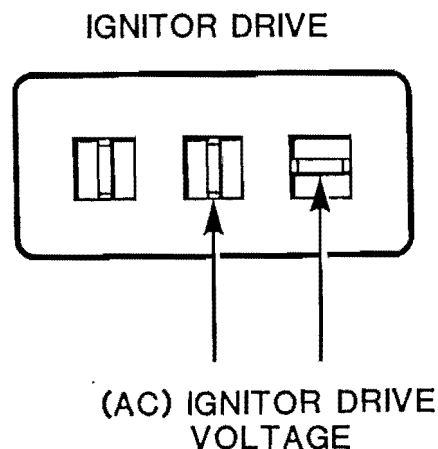

Fig. 15 Ignitor Drive Plug.
- c No flash, and no "snap" at all indicates the ignitor or the power supply ignitor circuit is not working. The ignitor itself, the cabling to the power supply, or the ignitor drive circuitry in the Power Supply is at fault. You can check for ignitor drive signal from the power supply by monitoring the plug at the Lamp Housing end of the ignitor drive cable. Detach the cable from the Lamp Housing and connect a high impedance AC voltmeter across the pins shown in Fig. 15. When you press the "lamp start button", the meter should register some tens of volts. The exact value depends on the meter impedance and how it arrives at the root mean square value displayed. If the voltage is present then the Lamp Housing Ignitor is malfunctioning. If the voltage is not present then the power supply ignitor drive circuitry is malfunctioning. You should return the Lamp Housing to Oriel for repair or replacement.